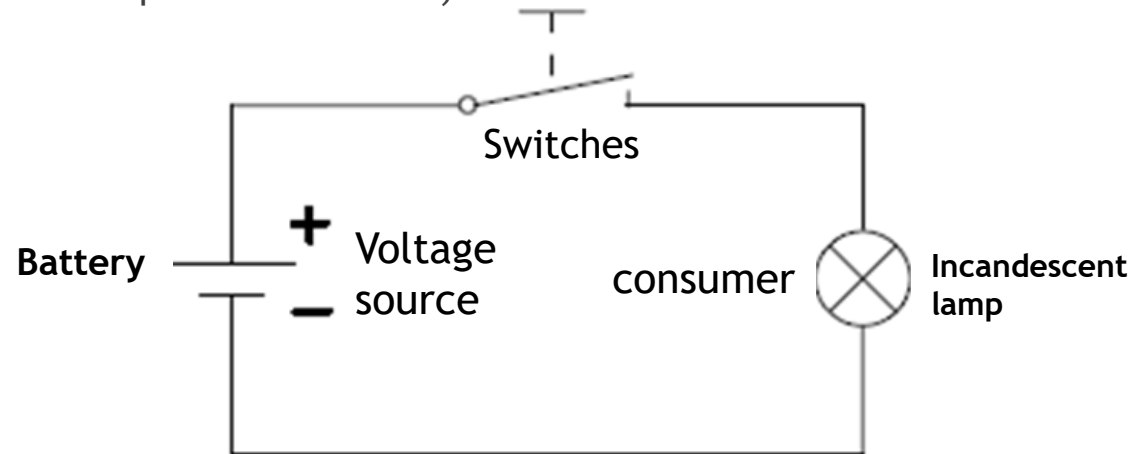

Fig. 1.2: Circuit diagram of a torch
- For a better overview, a circuit is shown in simplified form with symbols (Fig. 1.2).